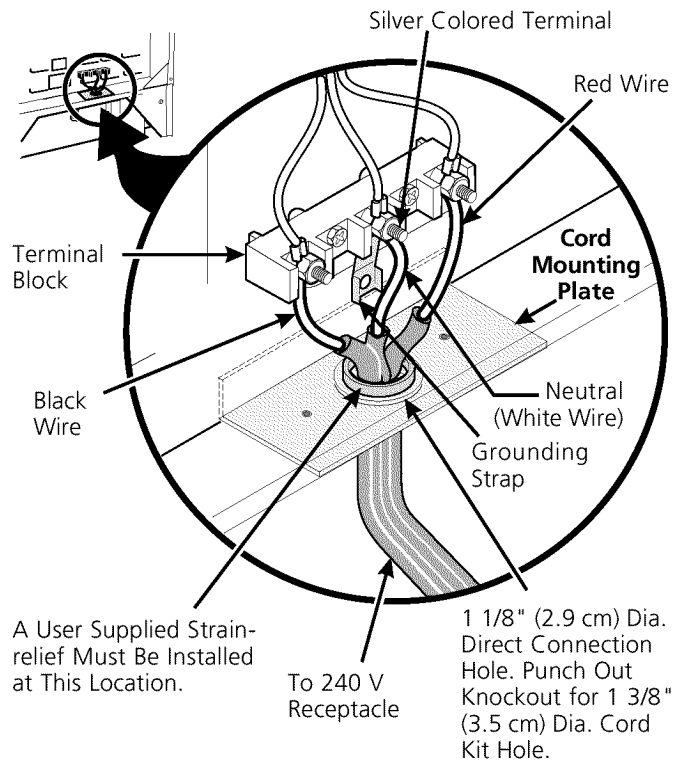

Figure 4
NOTE: Electric Slide-in Range is shipped from factory with 1 1/8" (2.9 cm) dia. hole as shown on figure 4. If a larger hole is required, punch out the knockout.
(The 3-conductor cord or cable must be replaced with a 4-conductor cord or cable where grounding through the neutral conductor is prohibited in new installations, mobile homes, recreational vehicles or in other areas where local codes do not permit neutral grounding) If local codes permit connection of the frame grounding conductor to the neutral wire of the copper power supply cord (see Figure 4).
4. Replace the 3 nuts on the terminal block (see figure 4).